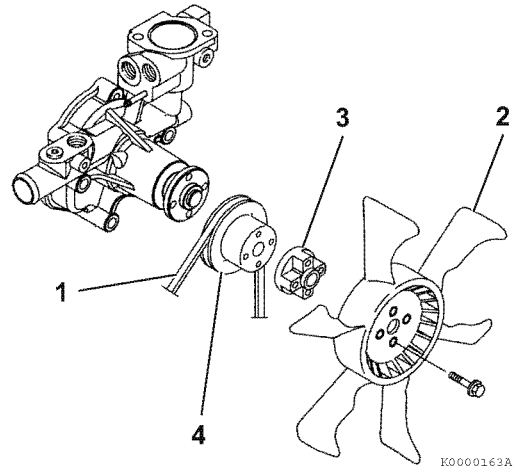

Figure 7-35
13. Reinstall the coolant pump V-pulley (4, **Figure 7-35**), spacer (3, **Figure 7-35**) (if equipped) and engine coolant fan (2, **Figure 7-35**).
14. Reinstall the cooling fan V-belt (1, **Figure 7-35**). Adjust it as described in *Check and adjust cooling fan V-belt* on page 5-7.